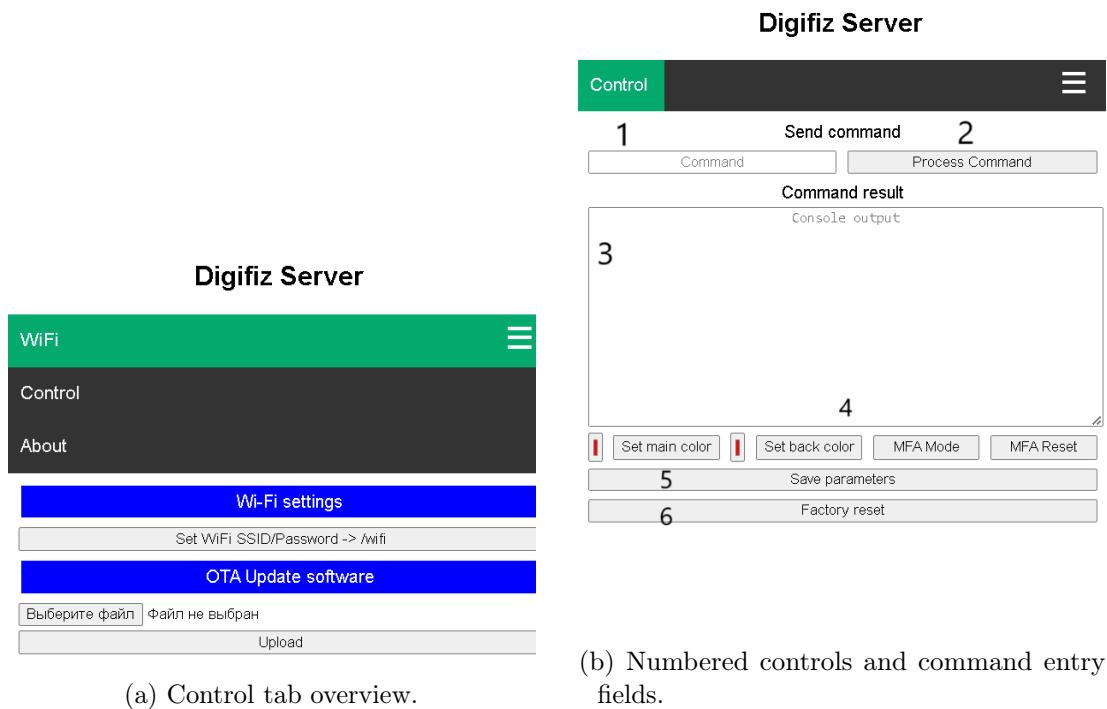

Figure 8.2: Digifiz Next Wi-Fi control interface.
- The portal contains five tabs: WiFi, Control, Settings, Colors, and About (Figure 8.2). The Wi-Fi tab configures network settings and handles firmware uploads; the Control tab adjusts dashboard parameters; the Settings tab provides a structured editor for all firmware parameters; the Colors tab manages multi-segment colour schemes; the About tab lists author information.